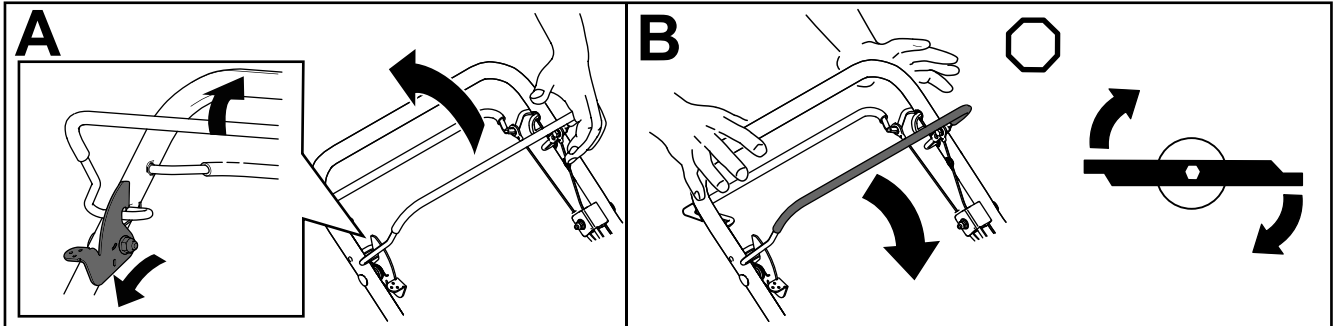

Figure 19
1. Push and hold the blade-control lock lever forward to release the blade-control bail (A of Figure 19).
2. Pull the blade-control bail to the handle and release the blade-control-lock lever; the blade should engage (A of Figure 19).
3. Release the blade-control bail to disengage the blade (B of Figure 19). The blade-control-lock lever resets to lock the blade-control bail.